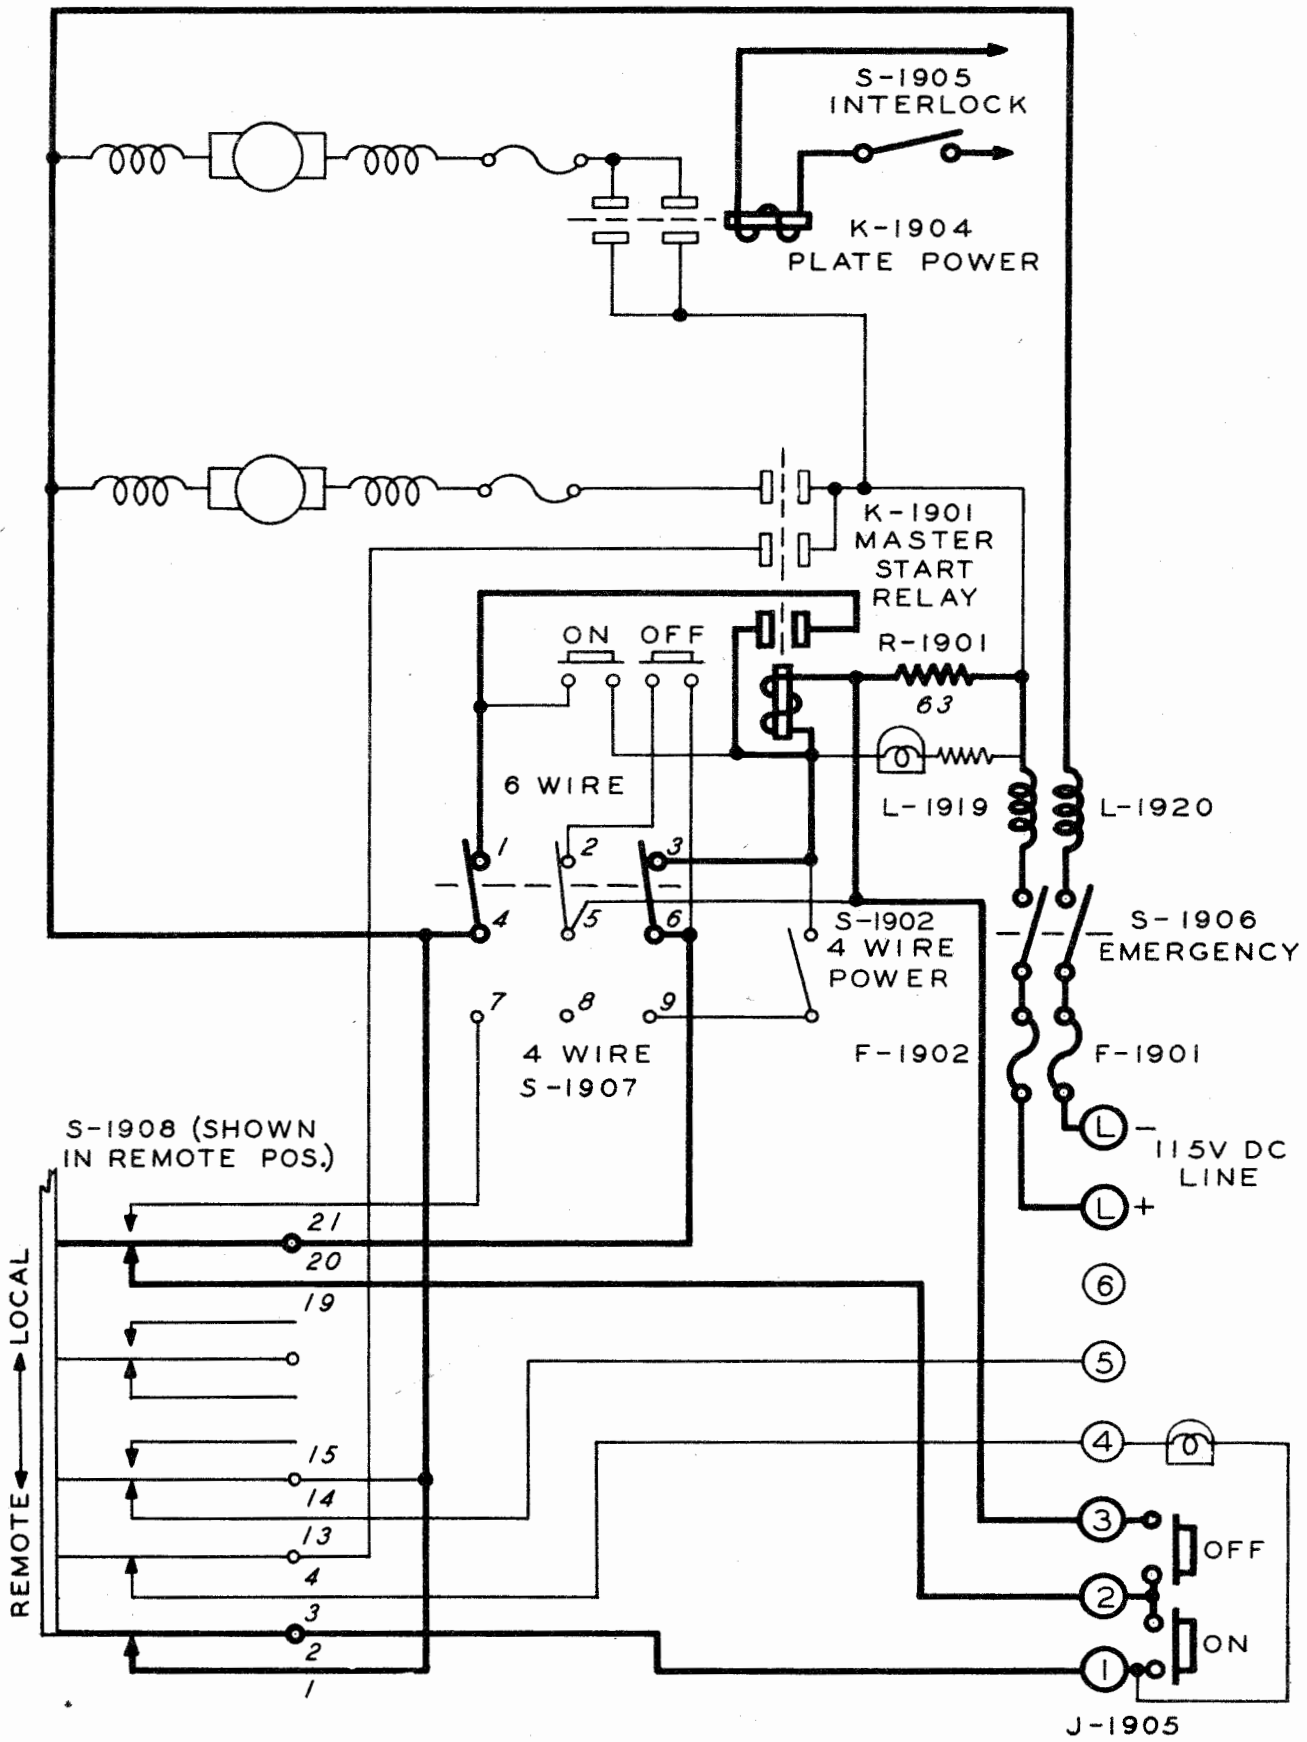

Figure 4-4 Remote Power Control - 6 Wire Navy Circuits
i. REMOTE POWER CONTROL - 6 WIRE NAVY CIRCUITS. (See figure 4-4) - A set of push buttons are used for ON-OFF power control in standard Navy 6 WIRE control circuits. The DC power unit is designed to operate from Navy 6 WIRE circuits by operating the LOCAL-REMOTE switch S-1908 to the REMOTE position, placing the 4 WIRE-6 WIRE selector switch S-1907 in the 6 WIRE position, and opening the 4 WIRE POWER switch S-1902. Terminals 1, 2 and 3 on terminal
Master start relay K-1901 is returned to the unoperated position by short circuiting the operating coil. As shown in figure 4-4, terminals 2 and 3 on terminal board J-1905 are connected across the coil of master start relay K-1901. When the Navy OFF push button is pressed, the coil of master start relay K-1901 is short circuited and the hold-in circuit opens allowing the master start relay to release. Current limiting resistor R-1901 is placed in series with the operating coil of master start relay K-1901 to limit the current that may flow while the coil is short circuited by the OFF push button. A pilot light connected between terminals 1 and 4 on terminal board J-1905 will be energized when the master start relay K-1901 is operated.